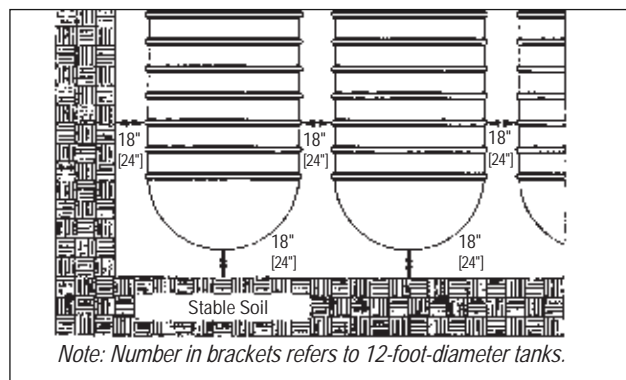

FIGURE 6-4
6.3.2.2. If more than one tank is to be installed in the same hole, allow for at least 18 inches between the tanks [24 inches for 12-foot-diameter tanks]. (See FIGURE 6-4.)